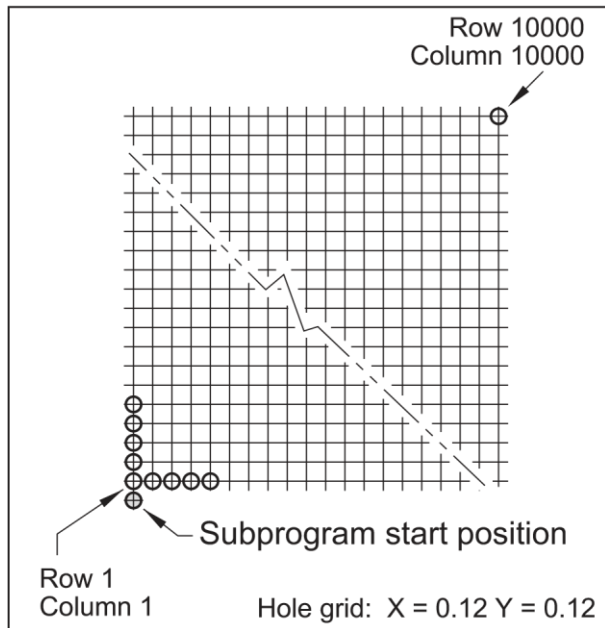

Figure 39-13
The example illustrates how one hundred million holes, (yes, *one hundred million* holes), can be spot drilled *and* drilled using a program of only 29 blocks for the two cutting tools. These 29 blocks even include program numbers and stop codes (% signs). *Figure 39-13* shows a simple grid pattern of 10000 rows (X) and 10000 columns (Y).